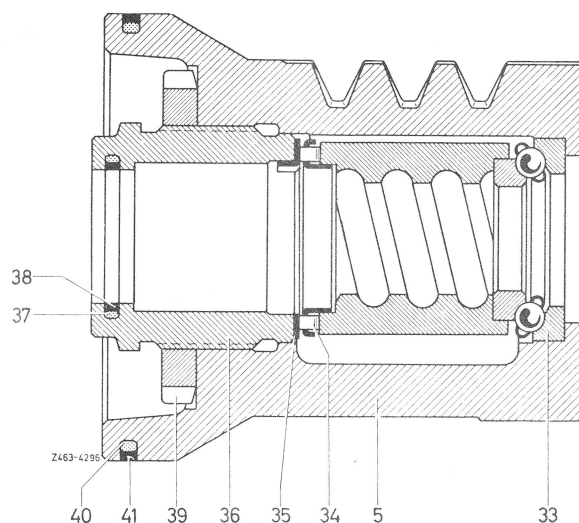

Fig. 2
3 Remove sealing ring (41) and O-ring (40) from working piston (5). Press outer race of axial tapered ball bearing (33) from working piston (Fig. 2 and 3).